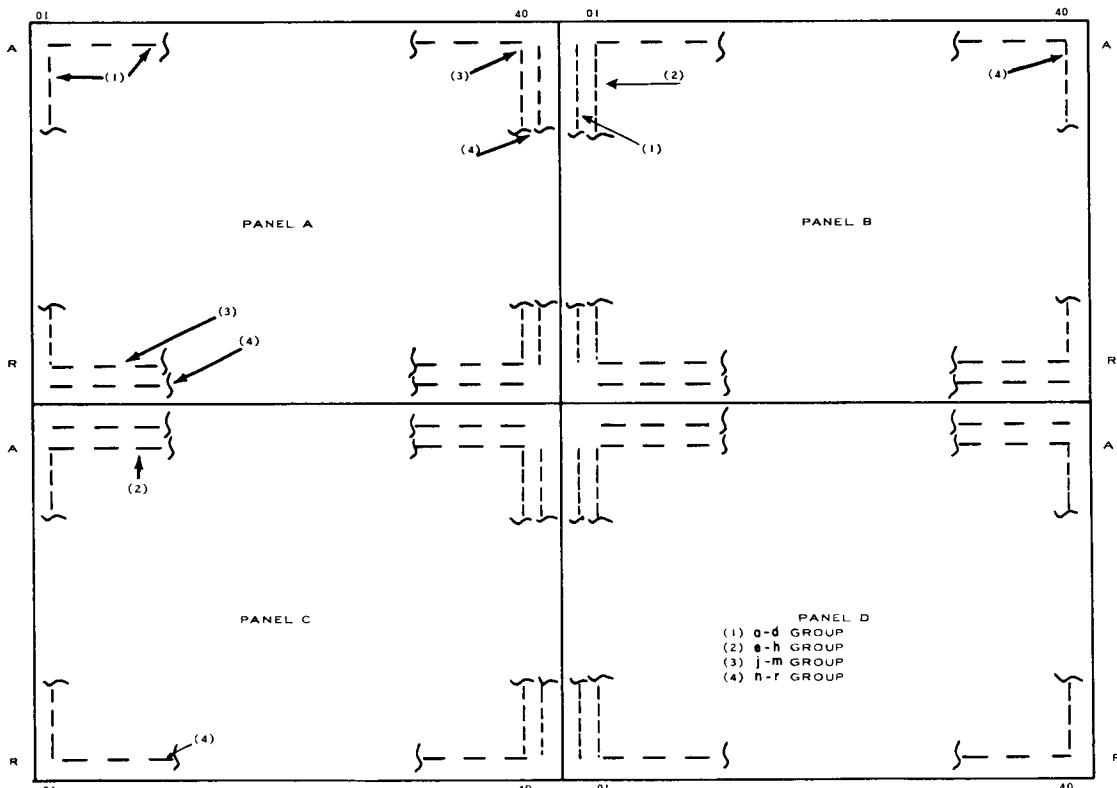

FIGURE C2. EDGE CONNECTOR LAYOUT
When signal or service wiring enters or leaves a panel, it is routed through an edge connector (EC), as shown in Figures C2 and C3. Because connectors are plugable, circuit isolation is convenient.
The EC's laid out horizontally on the top, middle, or bottom row are located by the numerical indexing on each panel (01, 02, and so on) as in Figure C2. The alphabetic indexing (A-Z) locates the vertical columns on the left or right side of the panel. The alphabetic index is A-R or A-Z, depending on the number of pluggable units (two or three) mounted on the panel. Individual terminals are labeled a-r (omitting i and o) left to right and top to bottom. Therefore, EC's in the extreme left column are the a-d group; the adjacent column is the e-h group; the two columns on the right are the j-m group and the n-r group. The same procedure follows for the horizontal rows (top to bottom). If only one column is used on the left, it is the a-d group. If only one column is used on the right it is the n-r group. Therefore, if a row or column of EC's is omitted, the indicated grouping is not used.